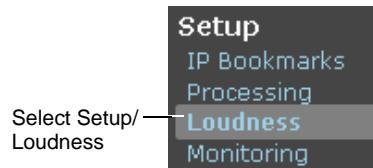

Figure 2-62 Select Loudness in the Setup Menu
1. Select **Loudness** in the **Setup** menu, as shown in Figure 2-62.